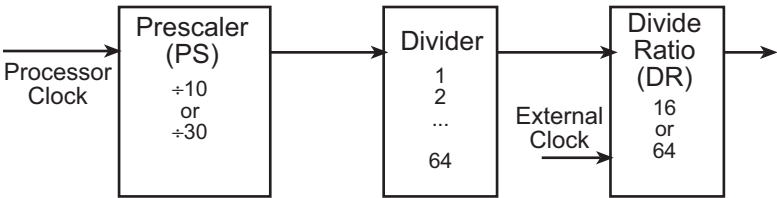

Figure 4-5. Baud-Rate Generator
The prescaler (PS), the divide ratio (DR), and the SS bits form a baud-rate generator (see Figure 4-5).